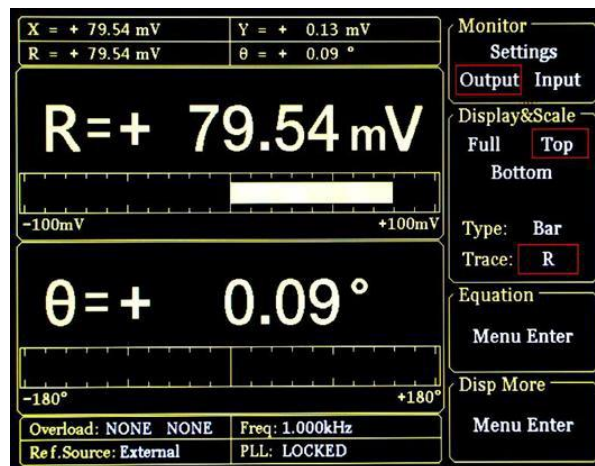

Fig.95 Monitoring Bar Display
Press [DISPLAY] in front panel to enter the submenu. Then, press [soft key 1] to set the $\langle \text{Monitor} \rangle$ from $\langle \text{Setting} \rangle$ to $\langle \text{Output} \rangle$. Now the monitor bar will display the value of $\langle R \rangle$, $\langle X \rangle$, $\langle Y \rangle$ and $\langle \theta \rangle$, as is shown in Fig.95.